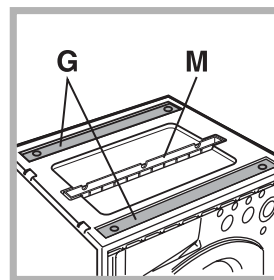

Fig. 10
The following can be found inside the polystyrene lid (*fig. 10*): 2 crossbars (G), 1 strip (M)